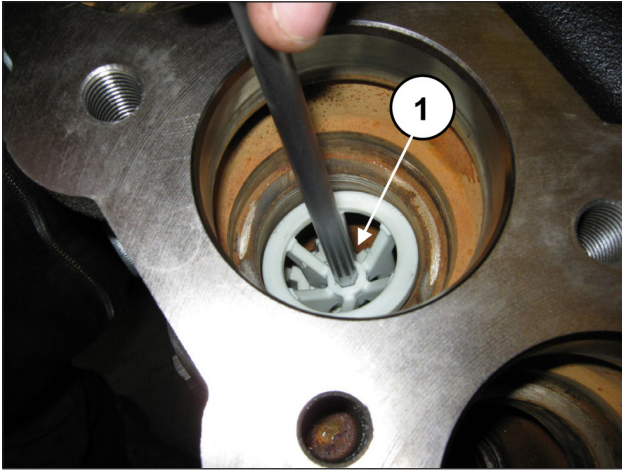

Fig. 100
Remove the valve guide spacer inserting an 8 mm hexagon spanner in the housing and lifting it to facilitate removal (pos. ①, Fig. 100).